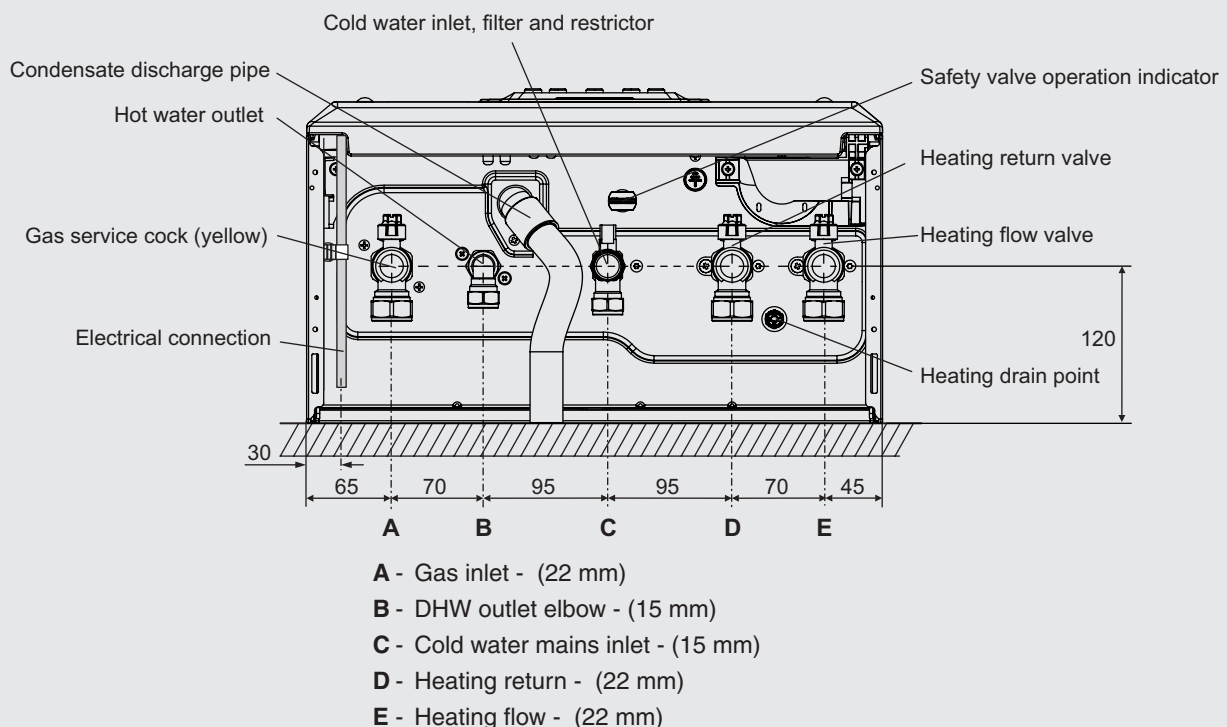

Fig. 5.4
5.5 CONNECT THE PIPEWORK - Fig. 5.4
2. Fit the valves to the boiler connections as shown in Fig. 5.4 - note the colours of the operating levers.
4. Connect the flexible condensate pipe to the rubber connector as shown in Fig. 5.4. Using the adaptor supplied, connect the flexible pipe to the condensate drain. Ensure that the condensate discharge pipe is as required in Section 4.10.